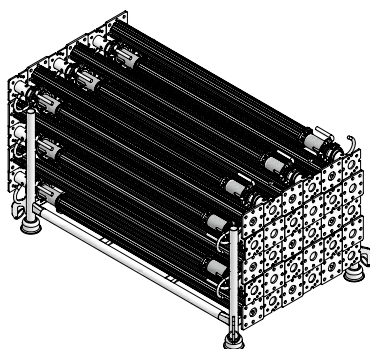

Fig. 36.1 MEP props 300 in piling rack
- 30 MEP props 300: 760 kg (Fig. 36.1),